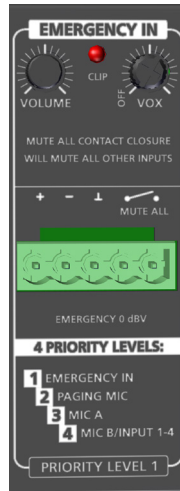

Figure 2. Emergency In
1. See Figure 2. Connect a balanced 0 dBV line level emergency input audio signal to the Euroblock connector.